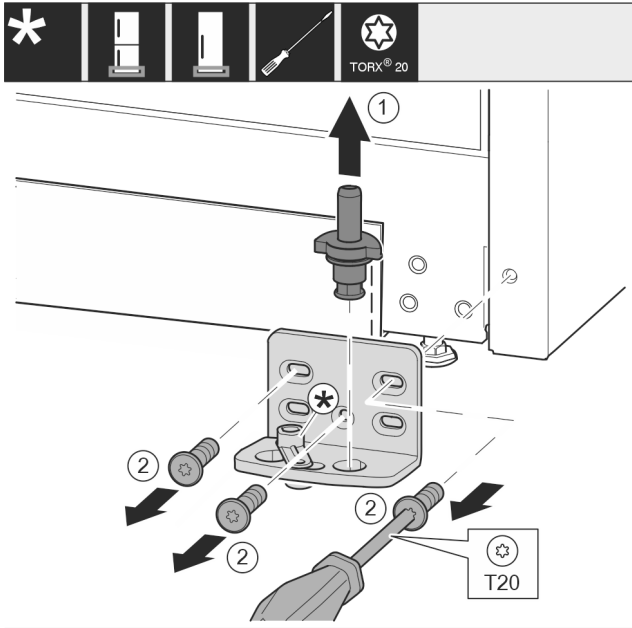

Fig. 10
- ▶ Lift the bearing pin completely upward and pull it out. *Fig. 10 (1)*
- ▶ Take out the screws with a T20 screwdriver and take off the bearing bracket. *Fig. 10 (2)*